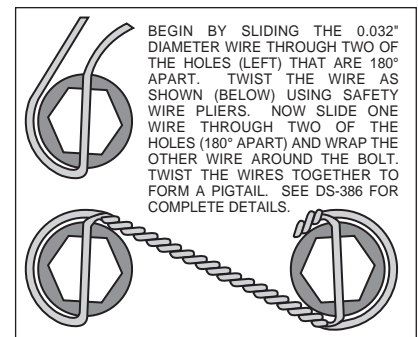

Figure 4. Safety Wire Diagram
- Apply red *Loctite*® 271 to bolt threads (2) before assembly of the caliper bracket (1) to backing plate face of spindle. Position the caliper mounting bracket (1) onto the spindle while positioning spacers (3) between bracket and spindle face. Slip the mounting bolts (2) into the threaded spindle holes, finger tighten. Torque two bolts (2) to 30 ft-lb. **NOTE:** Be sure the heads of the caliper bracket (1) insert nuts are facing outward toward the wheel.
- Install five new wheel studs (4) into the hub (5). Torque to 77 ft-lb. **NOTE:** There are two five lug patterns in the hub (5 x 4.50 and 5 x 4.75). Make sure of the correct hole pattern for the correct wheel application before installing studs into hub.
- Pack the large inner bearing cone (6) with high temperature disc brake bearing grease (available from your local auto parts store) and install into the backside of the hub (5).
- Install the grease seal (7) by pressing into the backside of the hub (5).
- Attach rotor adapter (8) to rotor (9) using six bolts (10). Torque bolts (10) to 180 in-lb. Safety wire bolts (10) using standard 0.032 inch diameter stainless steel safety wire as shown in Figure 4. Please refer to Wilwood's data sheet DS-386 (available at www.wilwood.com/Pdf/DataSheets/ds386.pdf) for complete safety wire installation instructions.